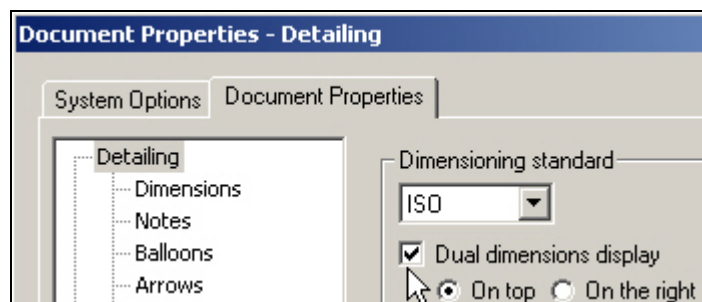

Figure 2 Option for dual units dimension display
2. If you decide to use dual units then turn them on in the same panel by checking **dual dimension display** under **Document Properties→Detailing**, as given in Figure 2.